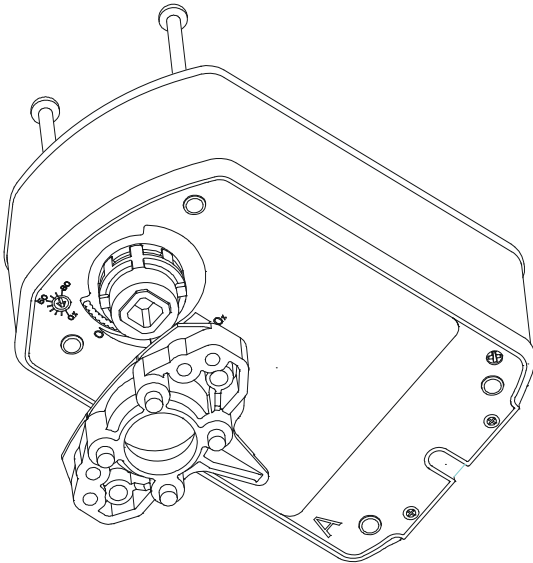

Figure 13: Installing the Linkage
5. Install linkage base on Side A using the two #10 14 x 2.75 in long screws (Figure 13). The recommended torque is 20 to 24 lb·in. (2.3 to 2.7 N·m).